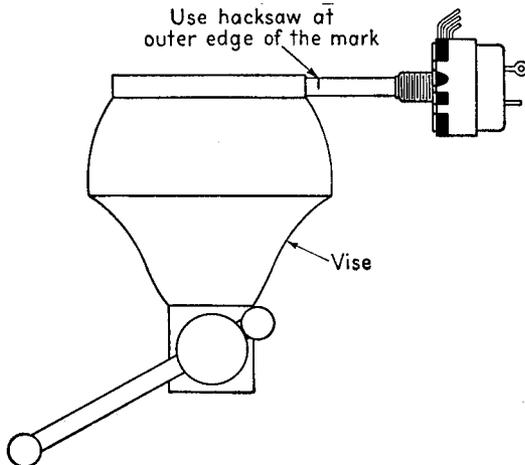

FIG. 11-12.—Cutting the volume-control shaft to size.
- Clamp excess portion in vise with mark showing and cut to the mark with a hack saw, as shown in Fig. 11-12.